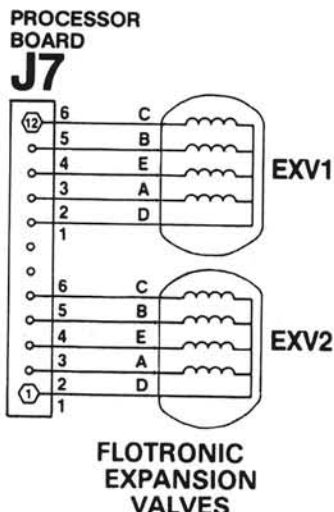

Fig. 18 – Printed-Circuit Board Connector
Turn power OFF. Connect positive test lead of meter to terminal 8 on connector J7 (see fig. 18). Set meter for approximately 20 vdc. Turn power ON, but do not enter Quick Test mode. For first 50 seconds valve motor windings will be alternately energized to close valve in circuit 1. During this time, connect negative test lead to terminals 9, 10, 11 and 12 in succession. Voltage should rise and fall at each pin. If it remains constant at a voltage or at 0 volts, remove connector and recheck. If problem is still there, replace processor board. If it is no longer there, expansion valve should be checked.
**Step 2 – Check EXV Wiring –** Check wiring to electronic expansion valves from J7 terminal strip on processor board (see fig. 18).
**Step 3 – Check Resistance of EXV Motor Windings –** Remove plug at J7 terminal strip and check resistance between common lead (red wire, terminal D) and remaining leads A, B, C, and E (see fig. 18). Resistance should be 25 ohms  $\pm$  2 ohms.